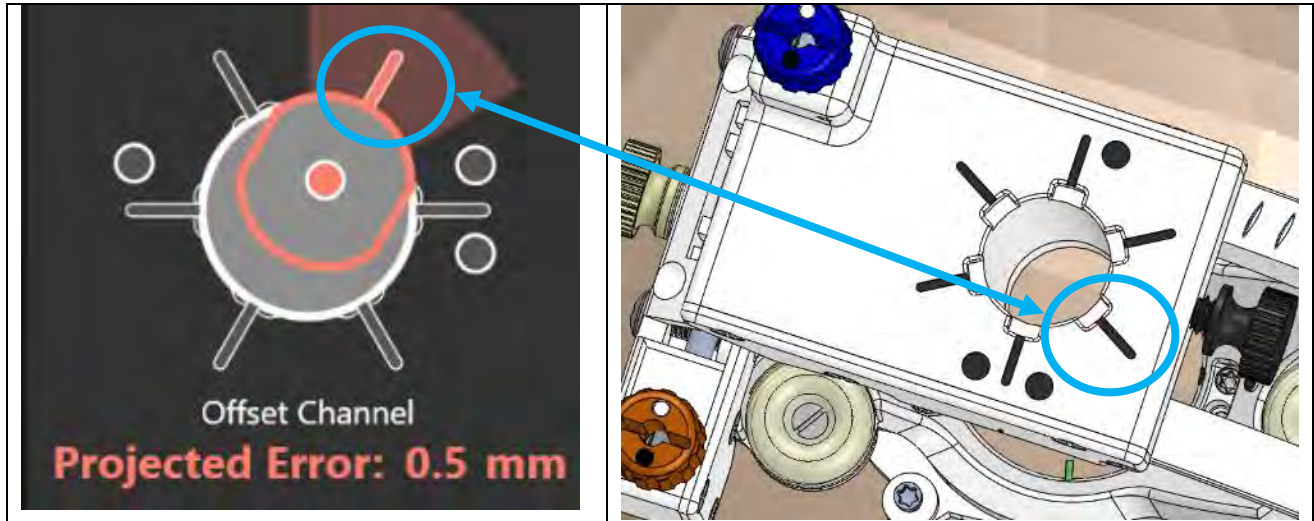
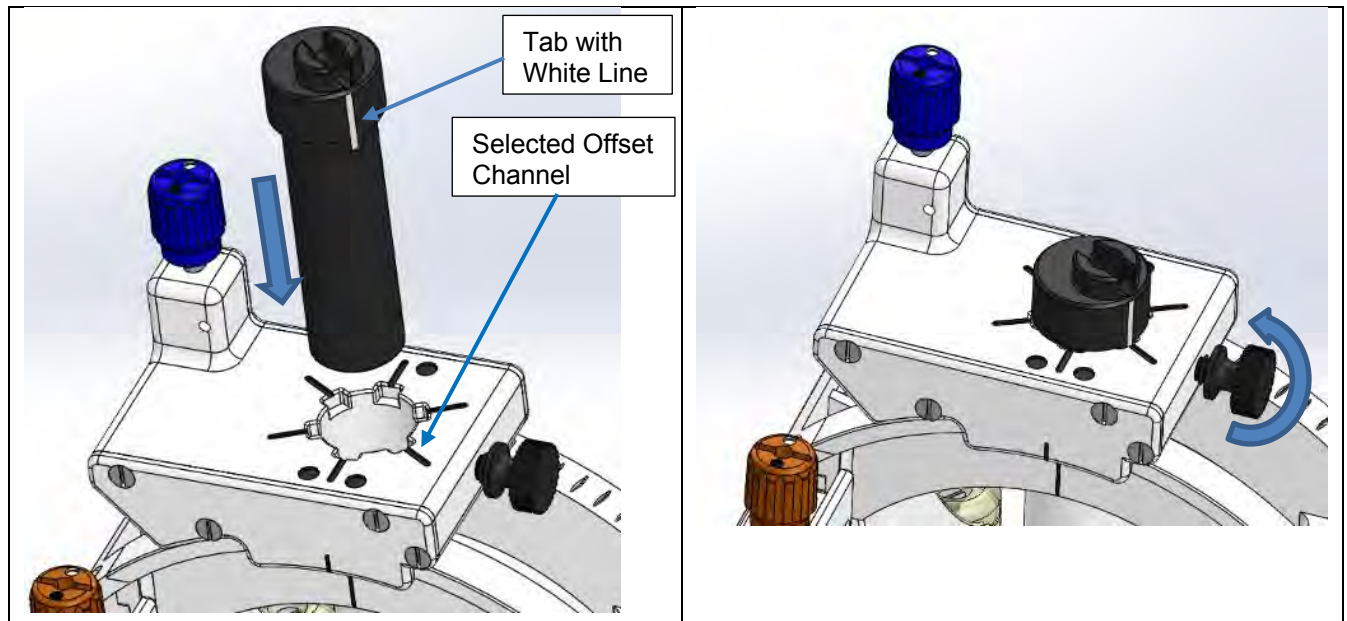

Figure 23: Offset channel selected in the software (Left), and the corresponding position on the SMARTFrame Array tower (Right)
Figure 24: Offset Drill Guide Inserted into the desired offset position on the SMARTFrame Array tower
3. If the OFFSET GUIDE was selected, line up the side tab with the channel position line on the tower. The orientation dots on the tower match those shown in the Software. **See Figure 23 and Figure 24.**
4. Insert the Guide so that the tab clicks into the slot that corresponds to the selected channel. See Figure 24.